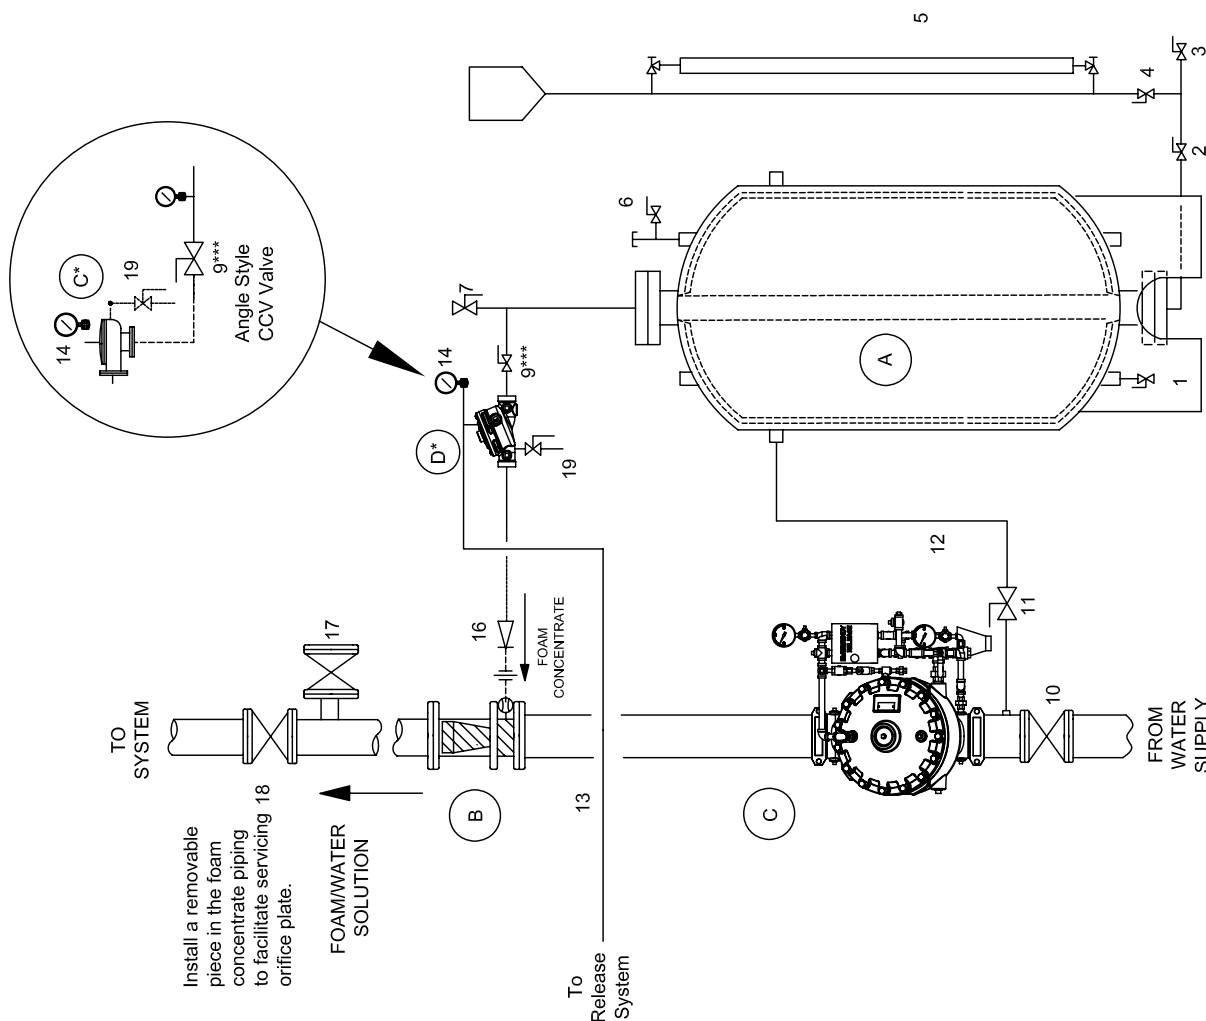

Figure 2
- F. The Halar® coated concentrate control deluge valve (D) does not require any trim, except for a ½" priming line (13) and water pressure gauge and 3-way valve (14) from the main deluge valve (C) to the priming chamber of valve (D). Plug all the remaining valve trim outlets. Connect Halar® coated concentrate control deluge valve (D) priming line (13) to deluge valve (C) as shown on Figure 2. Refer to the "Valves" section of this data book to find the correct trim kit part number for the corresponding size of Halar® coated foam concentrate control deluge valve (D) required.
- G. A strainer is not required in the foam concentrate discharge piping (15) of bladder tank systems per NFPA Standards.